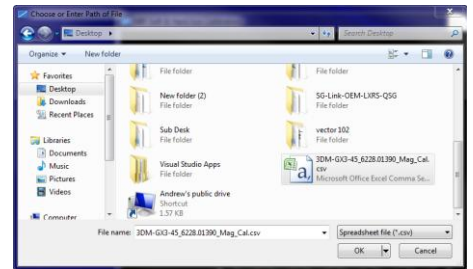

Figure 3: Navigate to the CSV and select
- Click Load Data and a dialog box appears, as shown in figure 3.